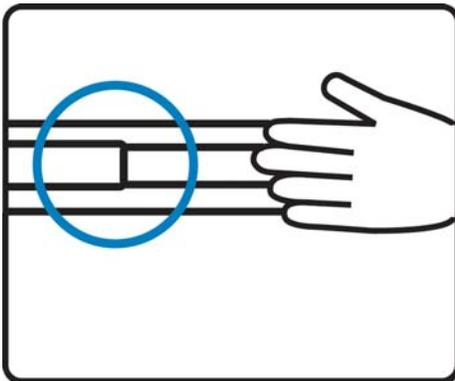

Figure 14
- Push the LCD keyboard drawer into the rack. (shown in **Figure 14**).